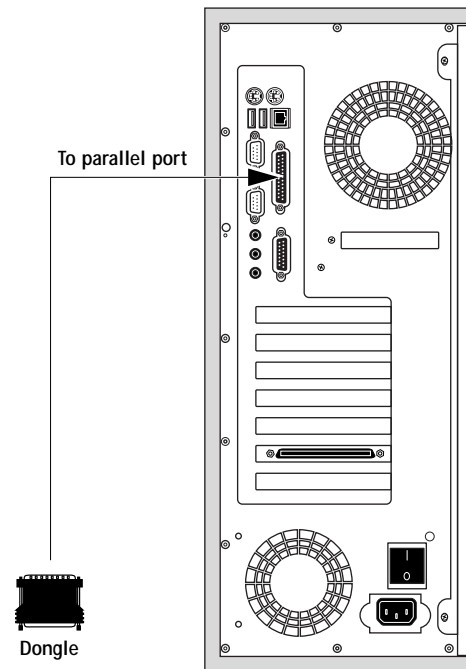

FIGURE 4-17 Connecting the dongle
1. Unpack the dongle shipped with the new motherboard and connect it to the parallel port on the back panel (see Figure 4-17).
3.  If you have not done so already, connect the dongle to the parallel port on the back of the E-820 (see Figure 4-17 on page 4-33).